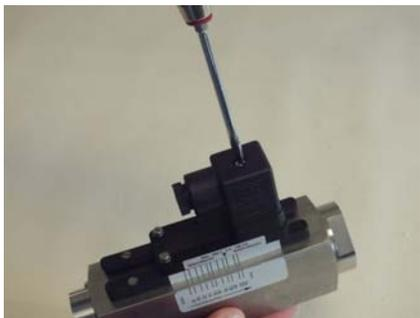

Fig. 50: Loosen female socket
1. ➔ Loosen the fixing screw of the female socket (Fig. 50) with a flat-bladed screwdriver